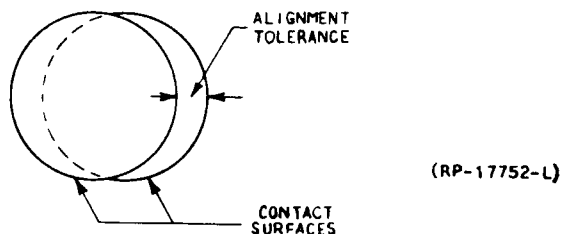

FIG. 8 CONTACT ALIGNMENT (PAR. 7.1)
7.1 Each pair of contacts, if each contact is the same size, shall not overlap more than the alignment tolerance indicated in Table A when the contacts are closed. (See Figure 8). If contacts are of different sizes the smaller contact shall not extend beyond the outer edge of the larger when the contacts are closed.